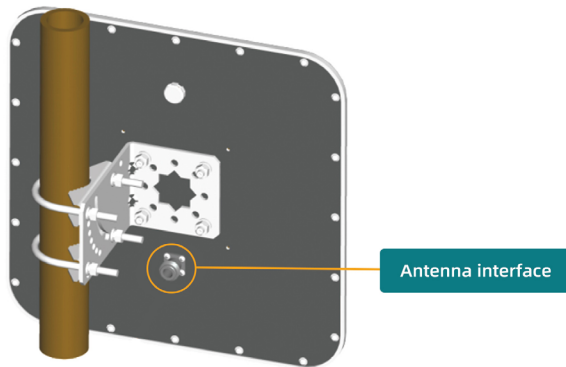

Figure 4.3 Antenna Installation and Connection Diagram
- 3) Tighten each connection with fingers to ensure that the connection is firm. When the antenna and cable cannot be twisted any more, it means that the antenna and cable have been tightened, as shown in Figure 4.3 below.